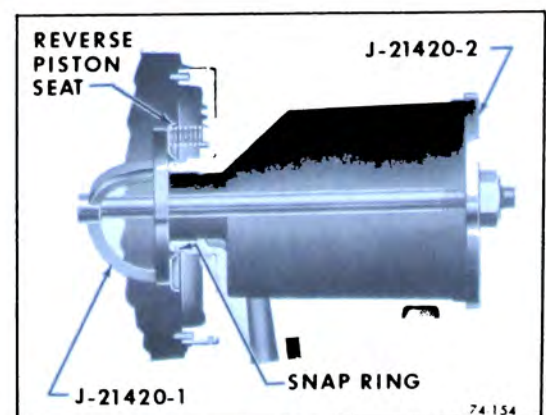

Figure 74-154
4. To remove reverse piston, center Tool J-21420-1 on reverse clutch piston return seat. Install J-21420-2 over threaded shaft at rear of case. Tighten nut to compress piston seat; then remove snap ring with Pliers J-5586. See Figure 74-154.